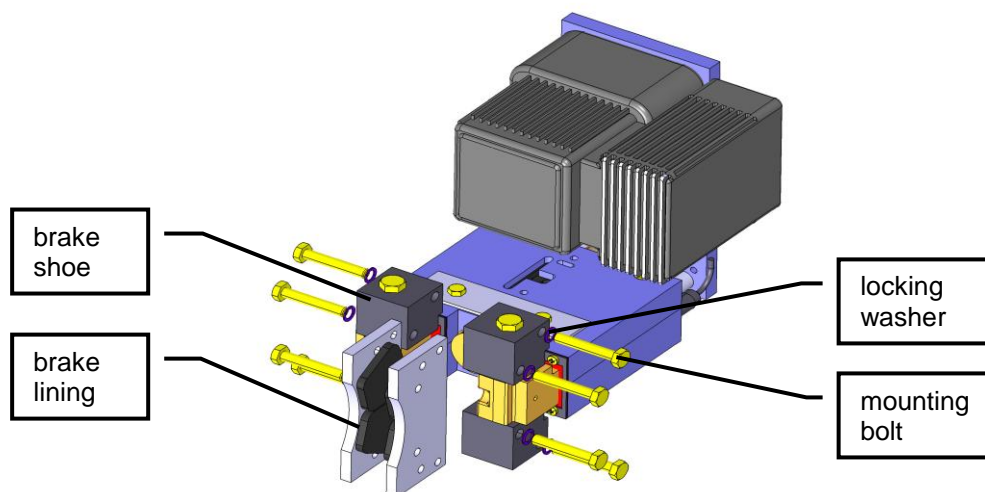

Fig. 13: Replacing the brake linings
- Loosen the bolts for the brake linings on the brake shoes. The linings can be removed upwards, downwards or in front direction (figure 13).